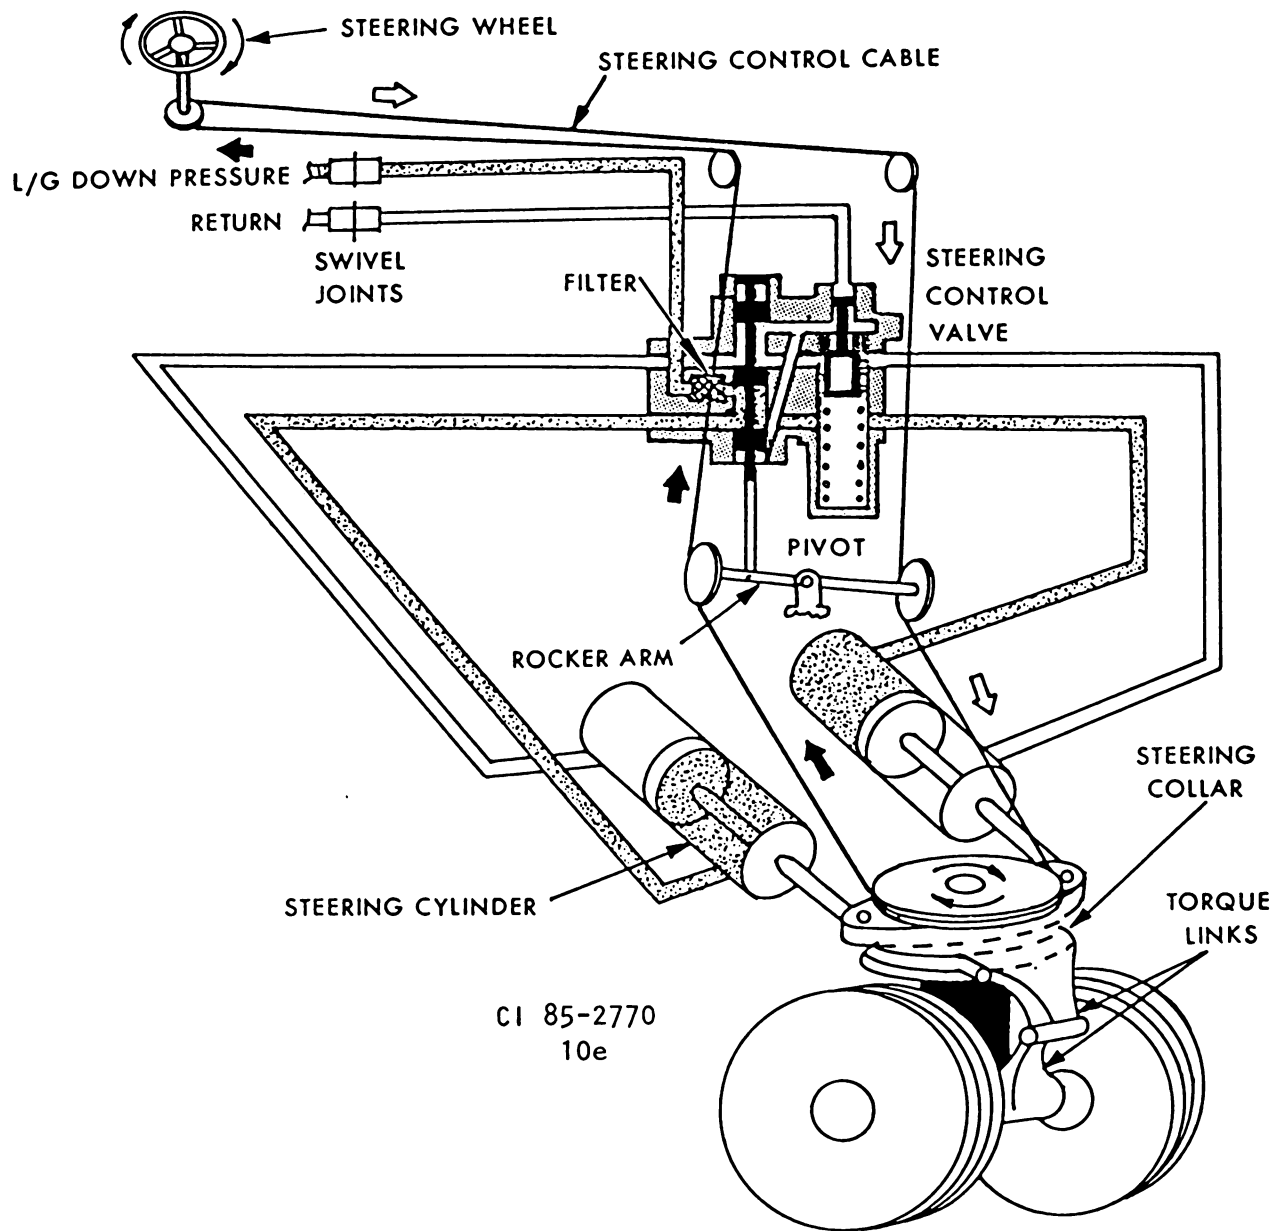

Figure 3-1. Nosewheel steering system.
Nosewheel Steering System Components. The landing gear steering system consists of a steering column, wheel, two steering cylinders, a steering control valve, and the necessary pulleys and cables to interconnect the steering cylinders, a steering control valve, and the necessary pulleys and cables to interconnect the steering components. Pressure for the steering system is applied by the utility hydraulic system through the nose gear down hydraulic lines. Figure 3-1 shows a diagram of the nosewheel steering system. Refer to this figure as we discuss the basic units of the system.
3. What type of steering cylinders are used in Figure 3-1?
633. Given a hypothetical situation, and the schematic in Figure 3-1, solve nose gear steering system malfunction problems by stating applicable procedures or specific trouble.
Take a look at figure 3-1 as we discuss each of these problems.
Steering inoperative. As you can see from Figure 3-1, the pressure for nosewheel steering comes from the landing gear down line. If for some reason the landing gear control valve has malfunctioned, there will be no pressure available for steering. Also notice that a filter is located in the pressure line of the steering control valve. If this filter became clogged it could cause the steering to be slow in operation or completely inoperative. Keeping the filter screens clean will decrease the chances of dirt entering the steering metering valve and causing a malfunction. Some other things that could cause the steering to be inoperative are the adjustment of the cables and the input linkage of the steering control valve.